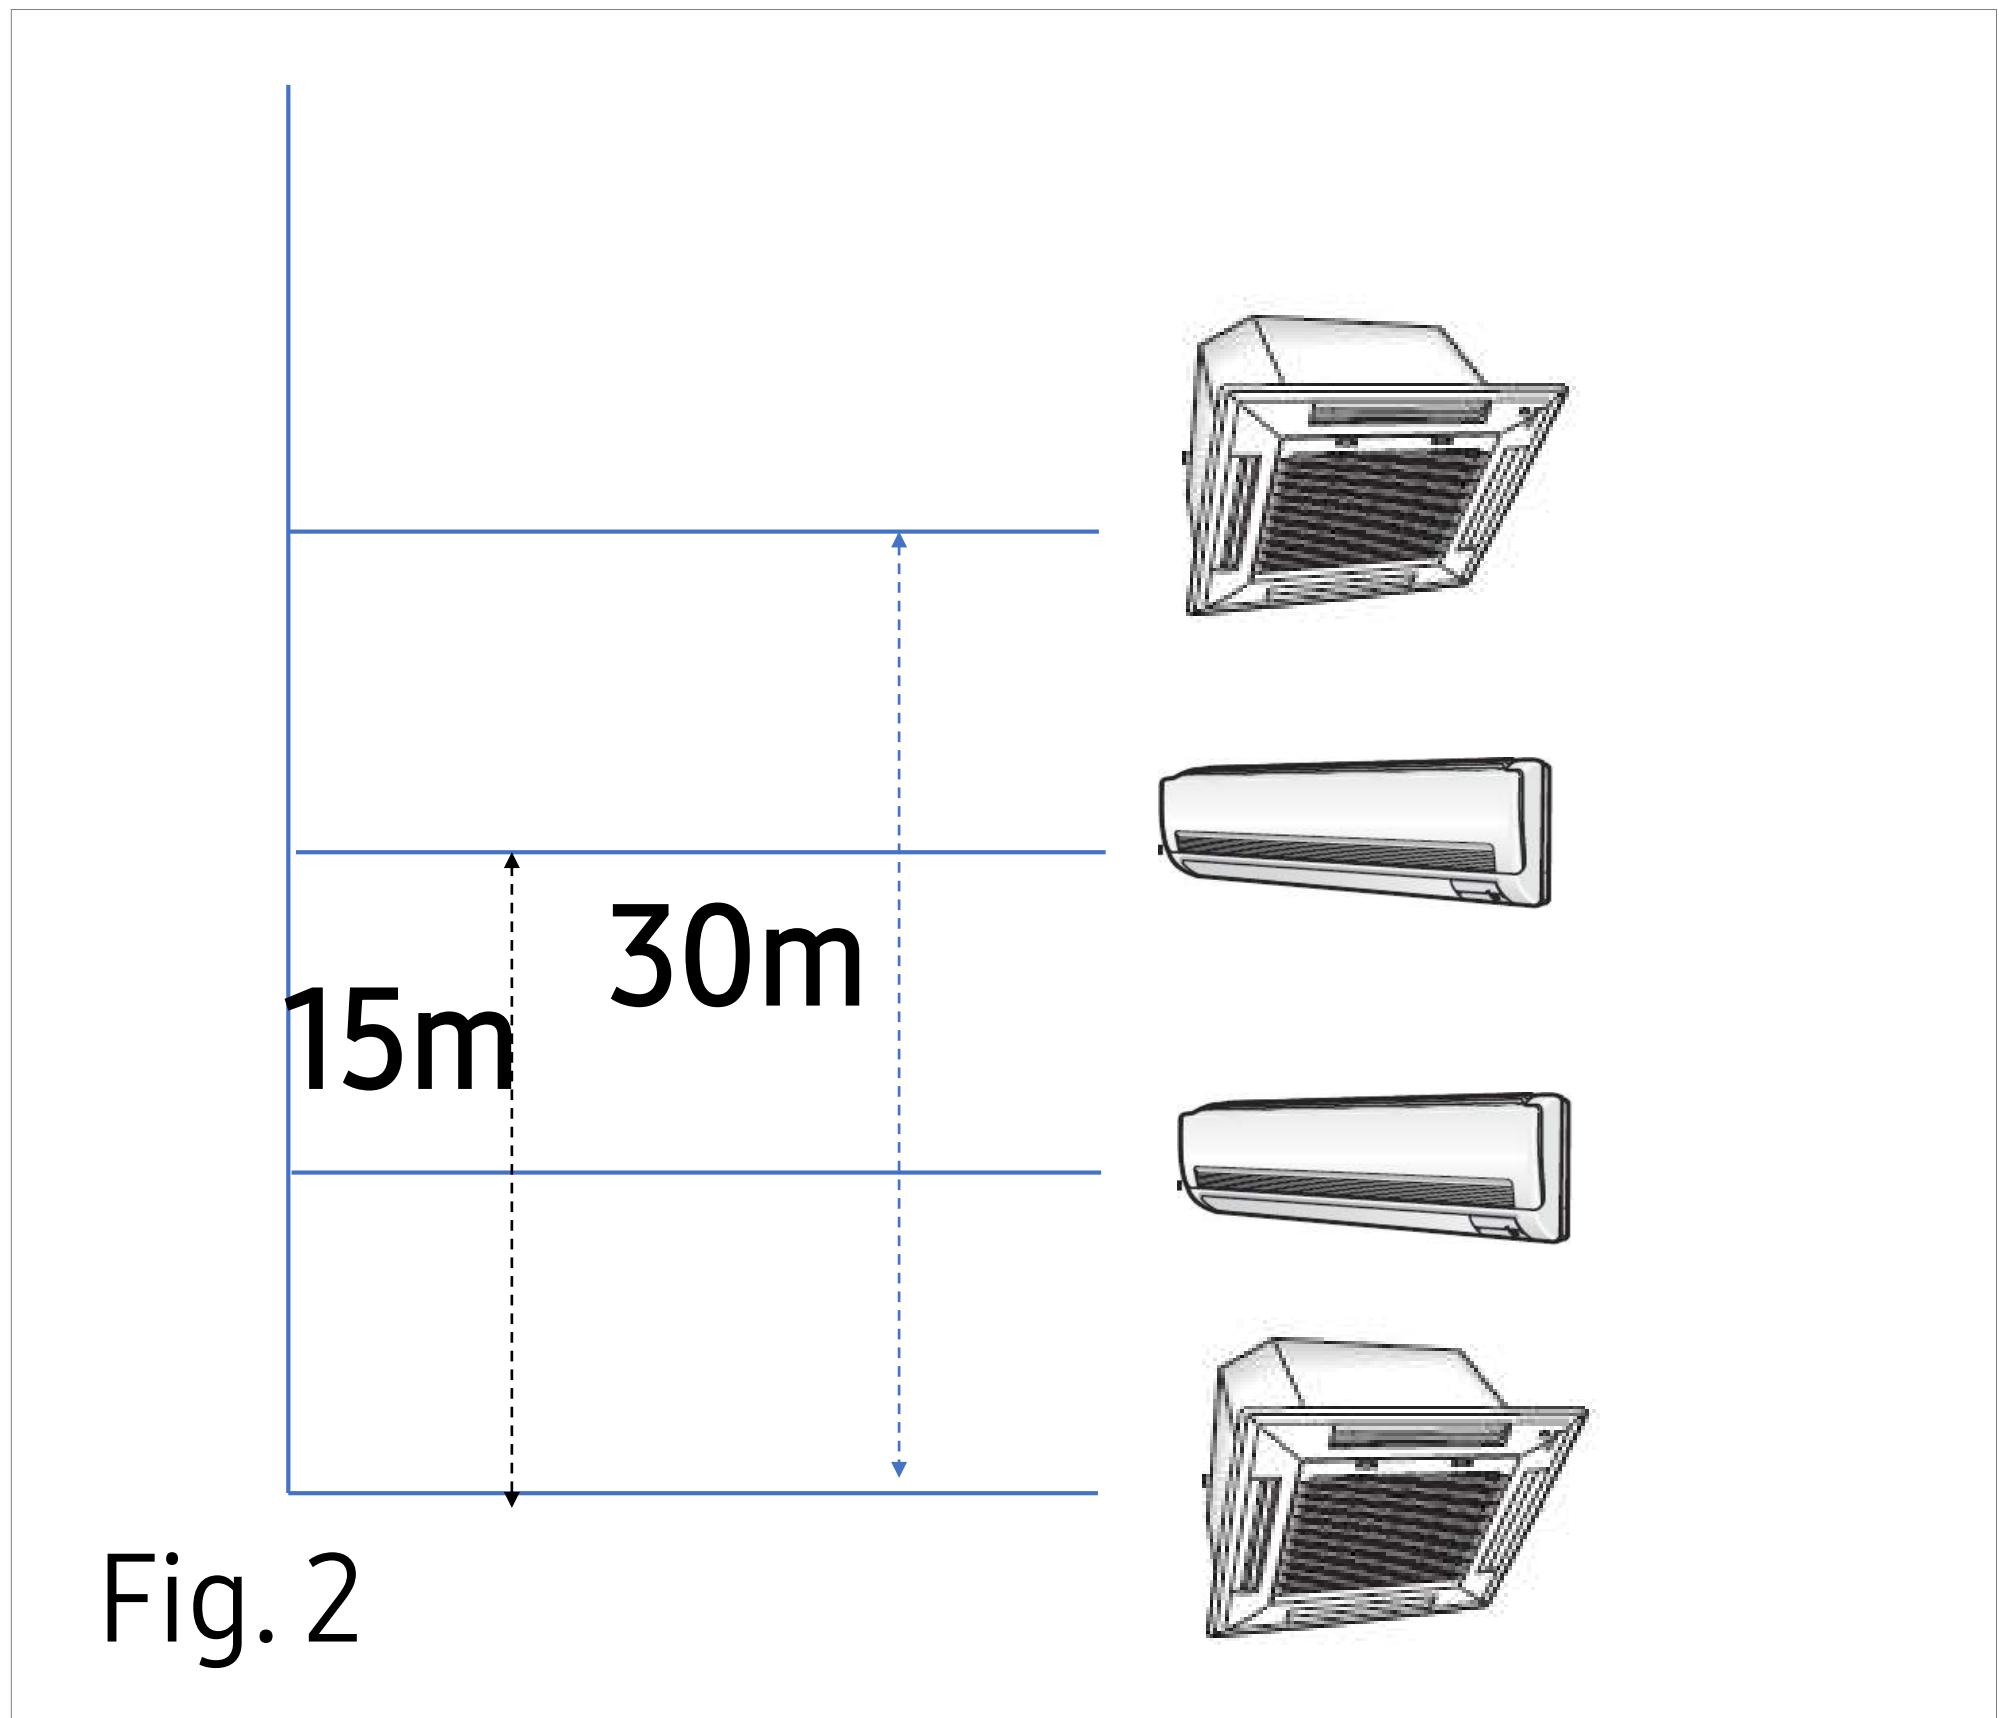

Fig. 2
2. In case of the system designed by mixing a wall mounted type with other type of indoor unit, the wall mounted type of unit must be installed within 15m(49ft) from the lowest indoor unit . See Fig. 2